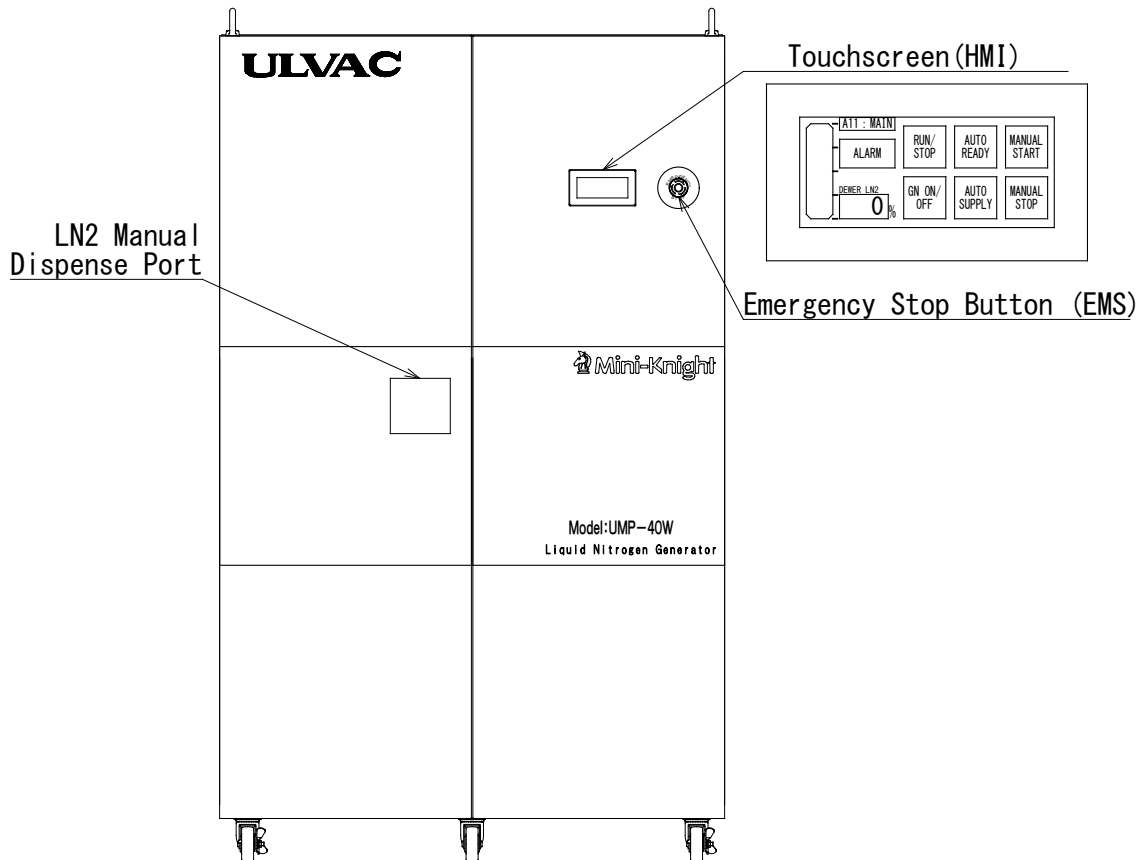

Figure 4-1 Front view of UMP-40W
4.1 Front view of UMP-40W (Figure 4-1)